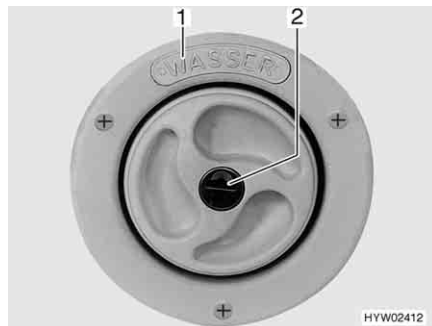
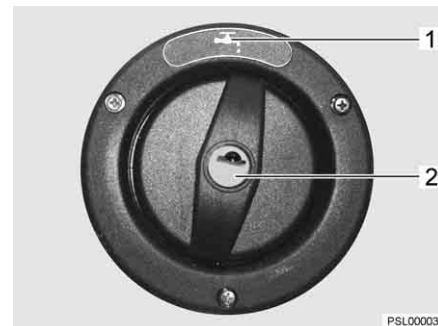

Fig. 229 Cap for the drinking water filler neck
Fig. 230 Cap for the drinking water filler neck (alternative)
The drinking water filler neck is labelled by the word "WASSER" (water) (Fig. 229,1) or marked by the symbol "W" (Fig. 230,1). The cap is open and closed using the key for the external flap locks.
- Insert key into locking cylinder (Fig. 229,2 or Fig. 230,2) and turn a quarter turn in an anticlockwise direction.